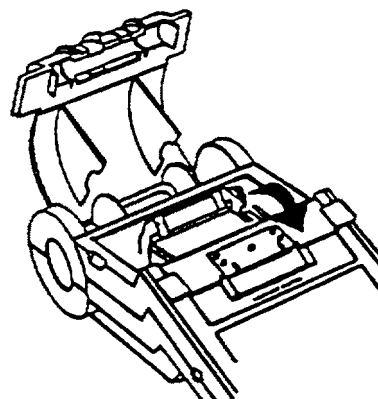

Figure 16. Ribbon Compartment
b. Expose ribbon compartment by lifting cover on the house tear bar. Place a finger to either side of tear bar and tilt cover back toward front of printer (Figure 16).